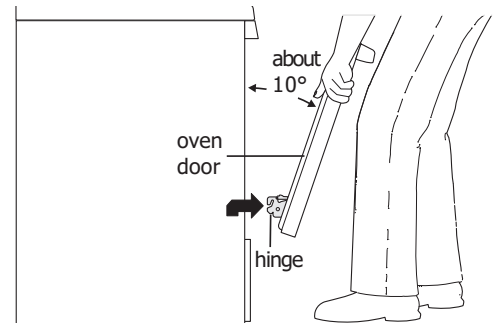

Figure 25: How to remove door
3. Firmly grasp both sides of oven door along the door sides (Do not use the oven door handle - Figure 25).
1. Firmly grasp both sides of oven door along the door sides (Do not use the oven door handle - Figure 25).